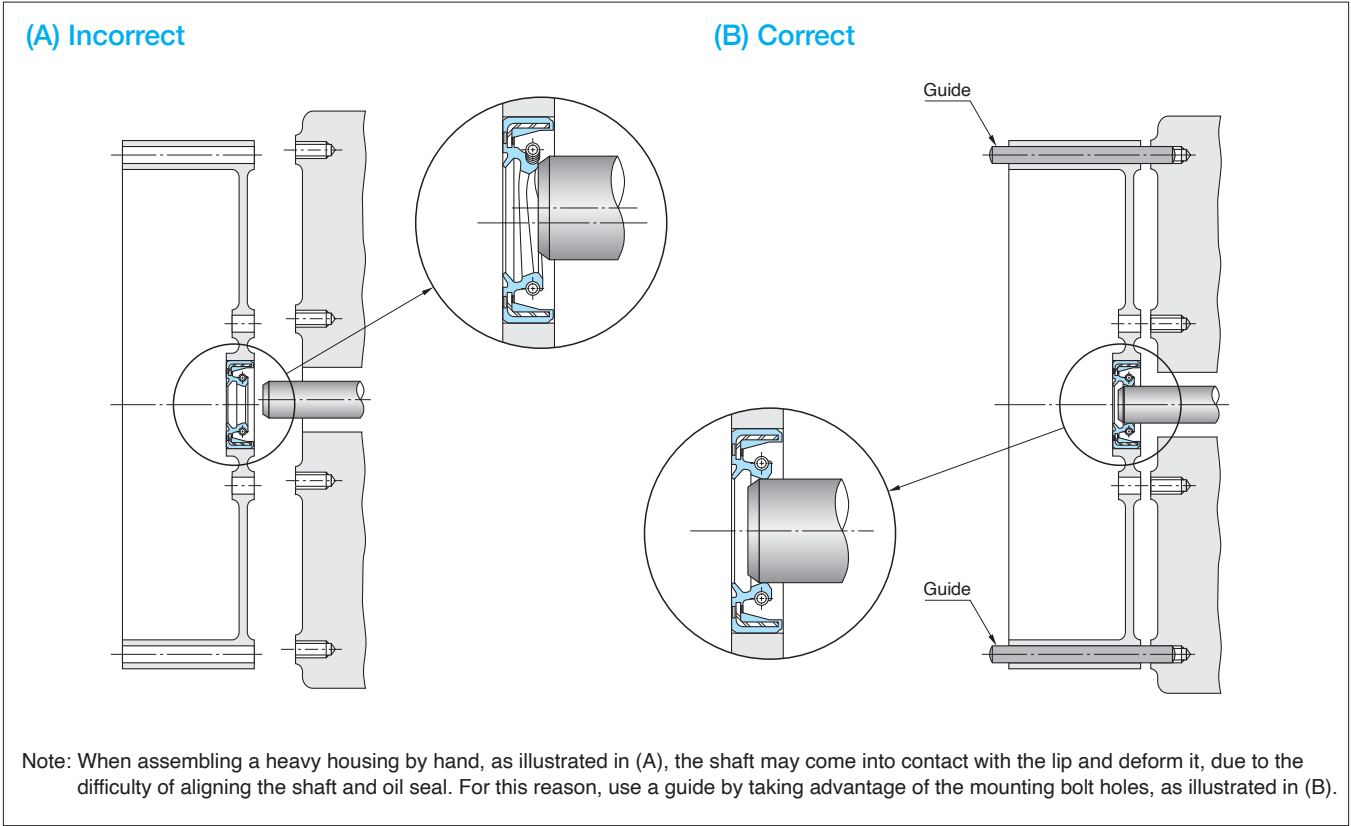

Fig. 7-11 Assembling a Heavy or Awkward Housing
- ❶ Apply a thin coating of the sealant to the bore ID surface of the housing, and wipe off any excess. Leakage can occur if the lip or the shaft surface is contaminated with sealant.
- ❷ Full-curing or extremely strong sealants require excessive force to remove the oil seal, usually resulting in damage to the housing. Always use semi-drying liquid gasket sealant.
- ❶ Apply a thin coating of lubricant or mineral oil based lithium grease (for example, Sealube SI made by NOK) to the shaft surface and the chamfer area. The seal should be smoothly inserted onto the shaft. Take care not to cause lip turn-under during this operation.
- ❷ Align the center of the seal with the shaft centerline, and carefully insert the shaft into the oil seal.
- ❸ When installing a pre-assembled housing and seal onto a shaft, or inserting a long shaft into a pre-assembled seal/housing, the seal lip can be damaged due to shaft contact during this awkward operation. See sketch (A) in Fig. 7-11 and 7-12. Avoid this damage by installing the seal only after the shaft and housing are assembled. If this is impossible, use an installation guide for the housing or shaft, as illustrated by (B) in Fig. 7-11 and 7-12.